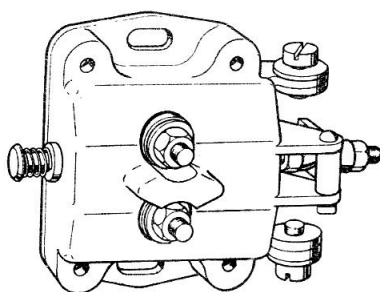

Fig. 1.
2. This switch (*fig. 1 and 2*) is a double-pole, snap-action, change-over type. The mechanism is contained in a black plastic case mounted on a duralumin base plate, and provided with two mounting slots.